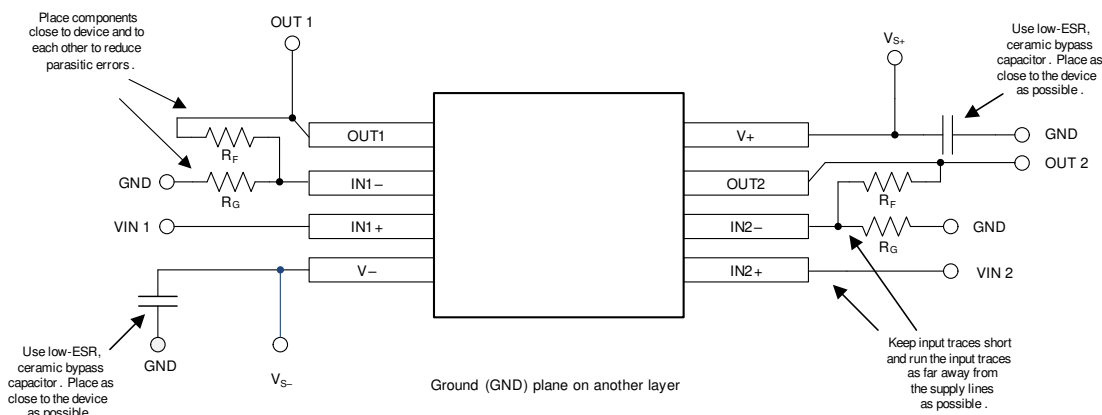

图 6. Layout Example
- Place the external components as close to the device as possible, as shown in 图 6. Keeping  $R_F$  and  $R_G$  close to the inverting input minimizes parasitic capacitance.